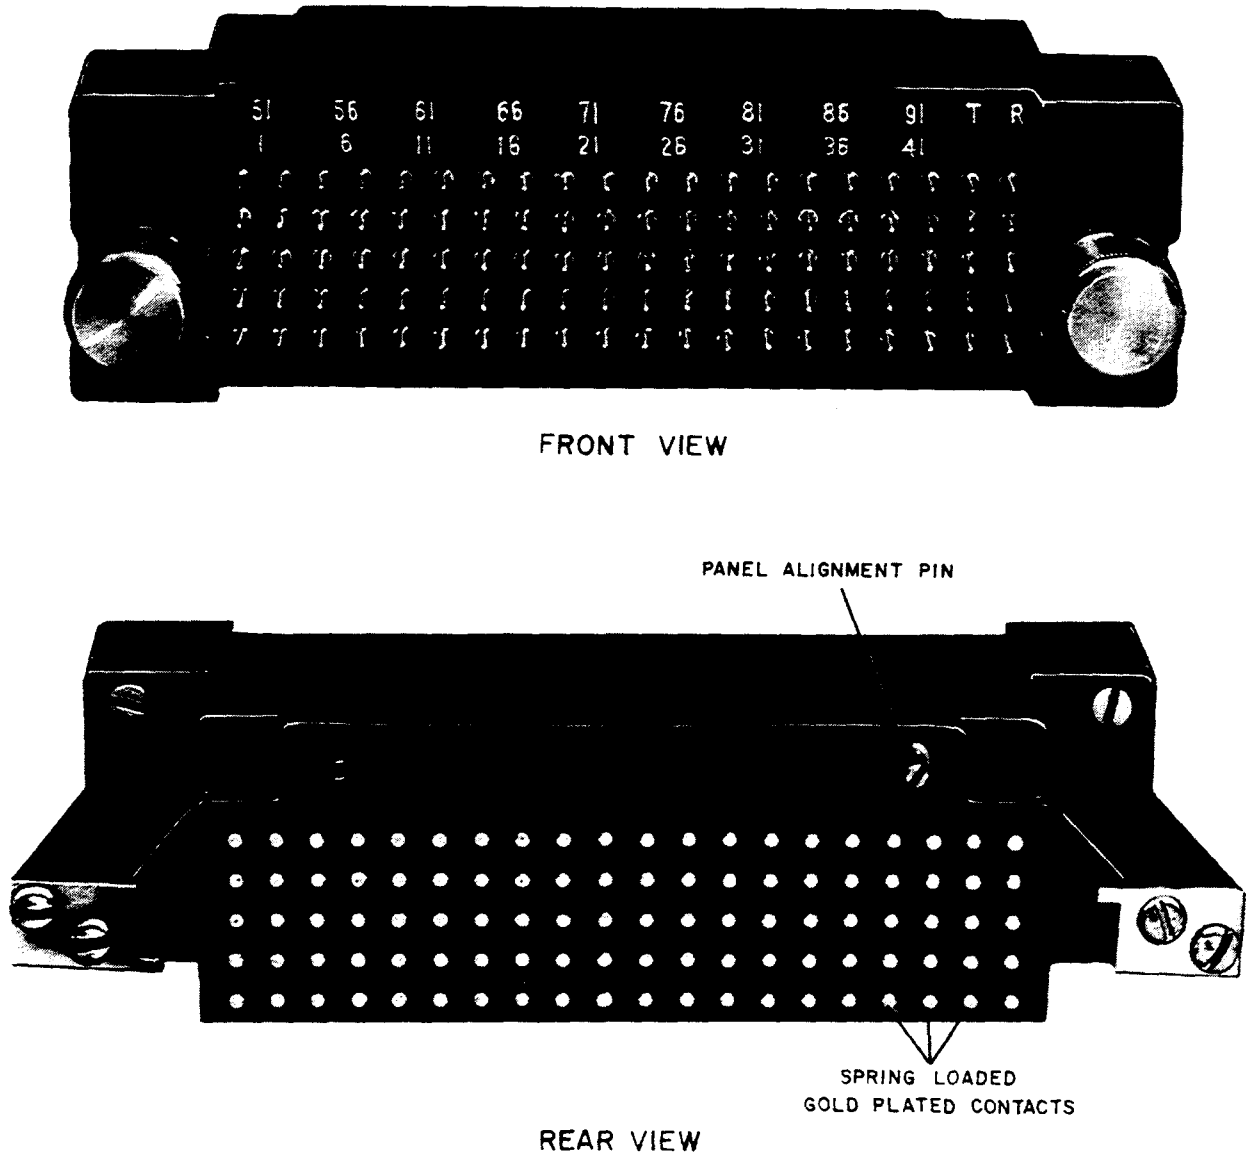

Figure 13—H Test Connector
6.06 The H test connector shown in Figure 13 is used on the 50-pair test contacts located at the top and bottom of each connector panel.